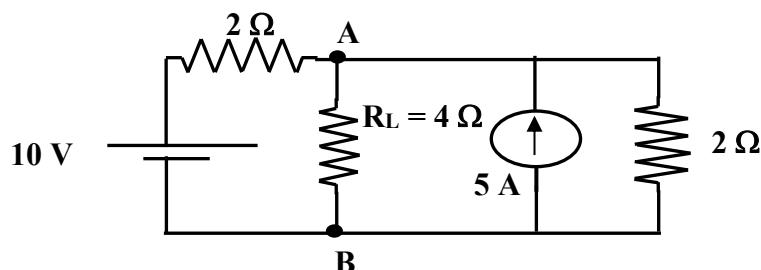

Figure: 5
5. Using source conversion method, simplify the given circuit in Figure 5 to its equivalent current source between the terminals AB and calculate the current in the 4Ω resistor.